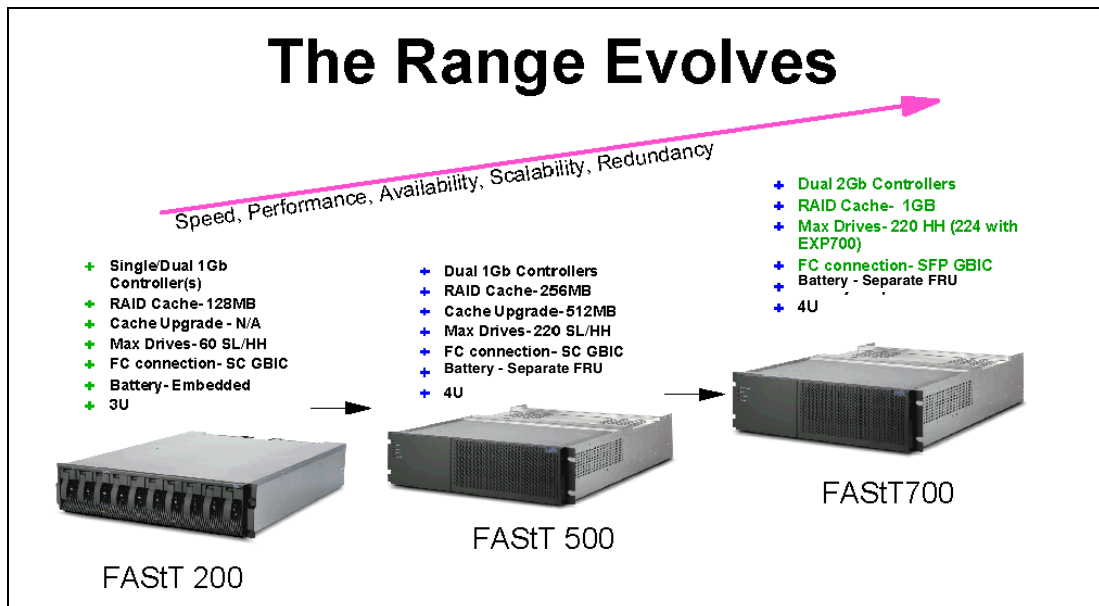

Figure 1-1 The FAStT evolution
The FAStT Storage Server is a RAID storage subsystem that contains Fibre Channel (FC) interfaces to connect both the host systems and the disk drive enclosures. The storage server provides high system availability through use of hot-swappable and redundant components. Although we focus on FAStT700, we give a brief overview of the other products. Figure 1-1 shows the FAStT evolution, which includes: